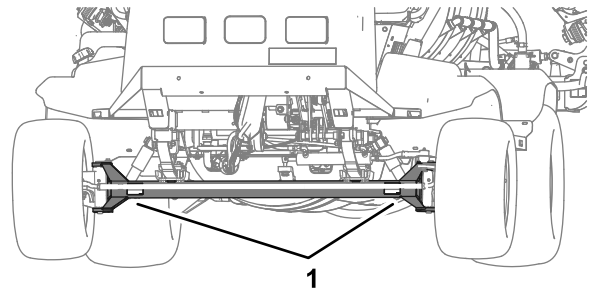
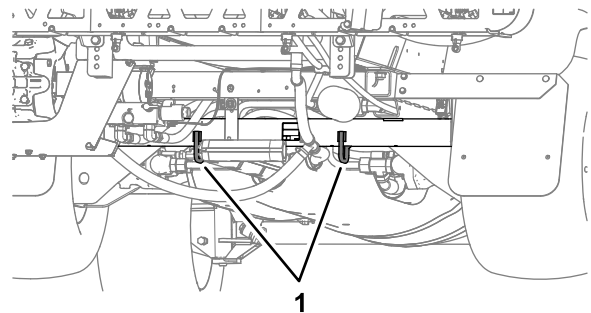

Figure 59
Figure 60
- Bind the machine securely to the transport vehicle; Figure 59 and Figure 60 illustrate the tie-down points of the machine.